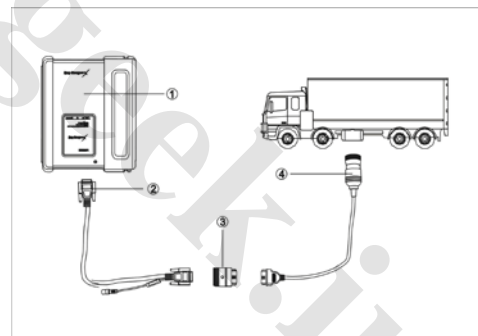

Figure 2-01
- Connect the other end of the diagnostic connector to the vehicle diagnostic socket. See Figure 2-01.